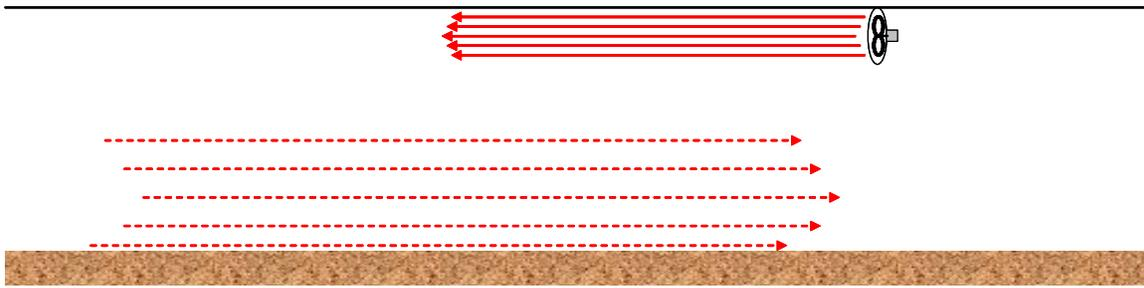
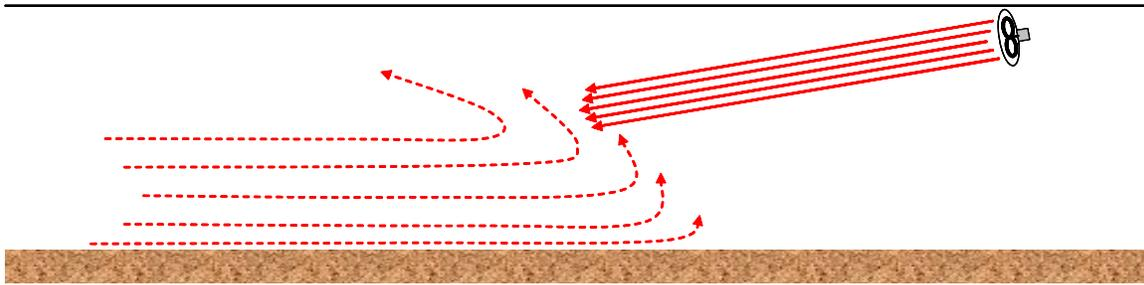

Figure 6. Counter-flow circulation pattern with fan blowing horizontal along ceiling.
Figure 7. Circulation fan blowing downward.
- 4) Circulation fans should be installed to blow air horizontally along the ceiling (Figure 4). Fans positioned so that they blow air downward at even a slight angle can tend to be problematic (Figure 5). First, when circulation fans are pointed down even at a slight angle they can cause a slight draft at floor level. Secondly, when the fans blow downward it tends to reduce the flow of air along the floor in the opposite direction (Figure 7). When the fans are next to the ceiling there tends to be air flow in the opposite direction along the floor which tends to mix the air in the house from end to end helping to make the house temperatures more uniform from end to end (Figure 6). When fans are directed downward this tends to hamper air flow in the opposite direction sometimes “piling up” heat in the end of the houses. The fans do not have to be tilted down much to harm the return air flow pattern. Tilting fans just as little as five degrees can have a significant effect on the overall performance of the circulation fans. The rule with 1/15 hp circulation fans is that if you can feel a draft, they are not installed properly.